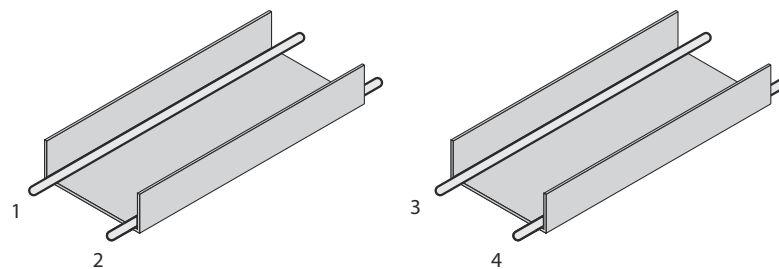
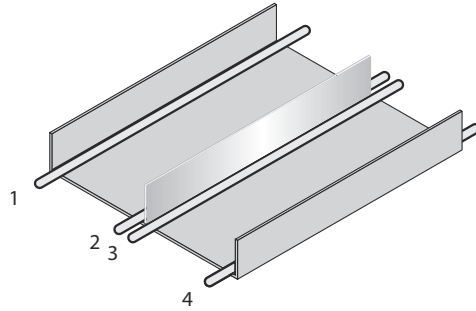

Figure 6: Ideal laying – Place cables in different cable channels
Figure 7: Alternative laying – Separate cables with metallic separators
- ▶ Route the cables in groups 1, 2 and 3, 4 in different cable channels or use metallic separators (see figure 6 and see figure 7). This applies particularly if cables of devices with a high level of radiated emission, such as frequency converters, are laid parallel to device cables.